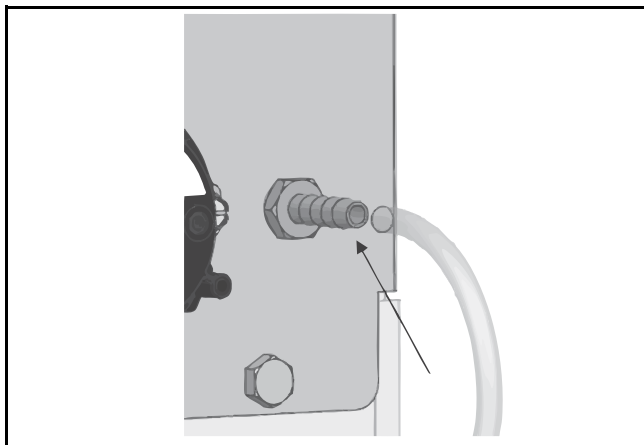

Fig. 17 Connect the Tube to the Brass Fitting
5. Connect the other side of the tube to the brass fitting, ensuring the tube is fully pushed on all the way. (→Refer to Fig. 17.)